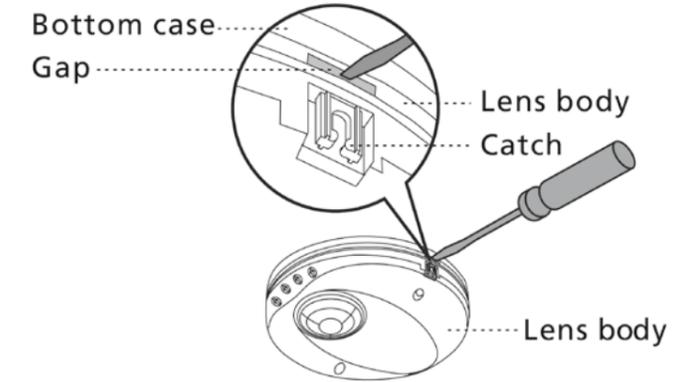

Fig. 5
2. To Separate bottom case from lens body force a small flat blade screwdriver into the hidden gap shown partially exposed in Fig. 5 then push the screwdriver in towards the centre and lever the bottom case assembly away from the lens body pins.